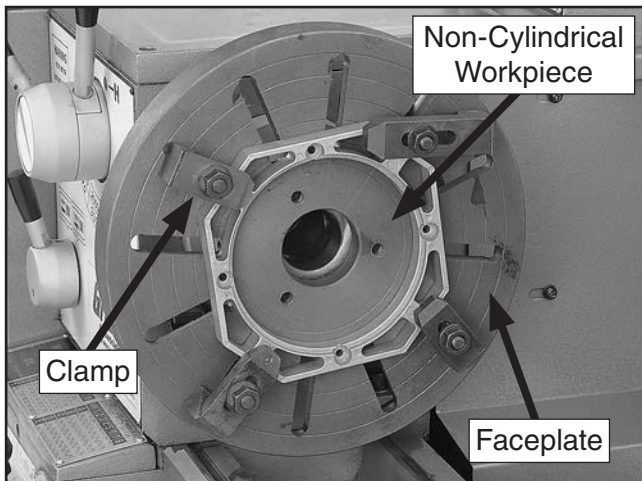

Figure 30. Example of a non-cylindrical workpiece mounted on the faceplate.
3. Secure the workpiece on the faceplate with a minimum of three independent clamping devices (see **Figure 30** for an example).